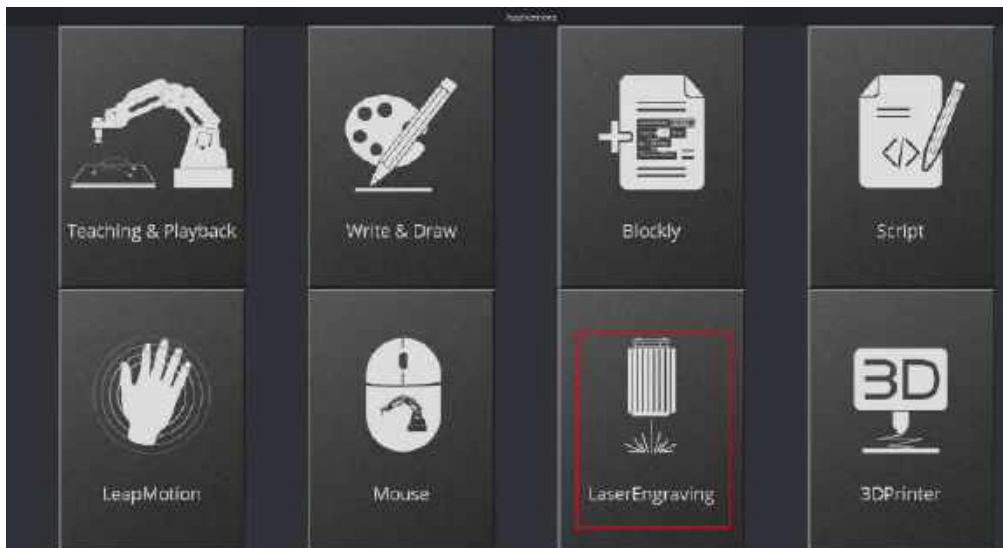

Figure 5.79 Click LaserEngraving
Step 2 Click **LaserEngraving**, as shown in Figure 5.79.